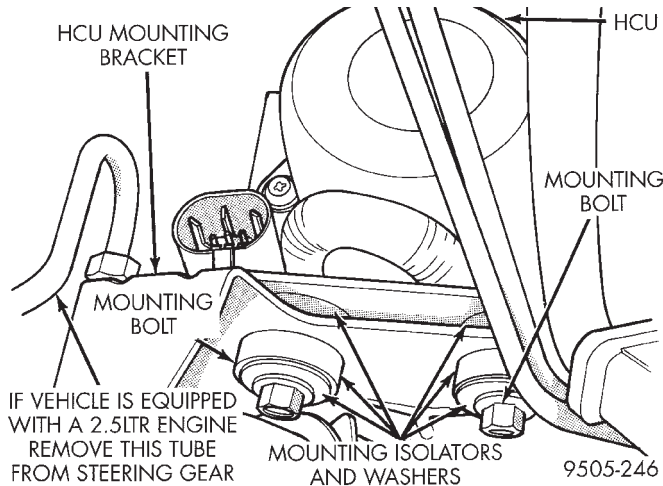
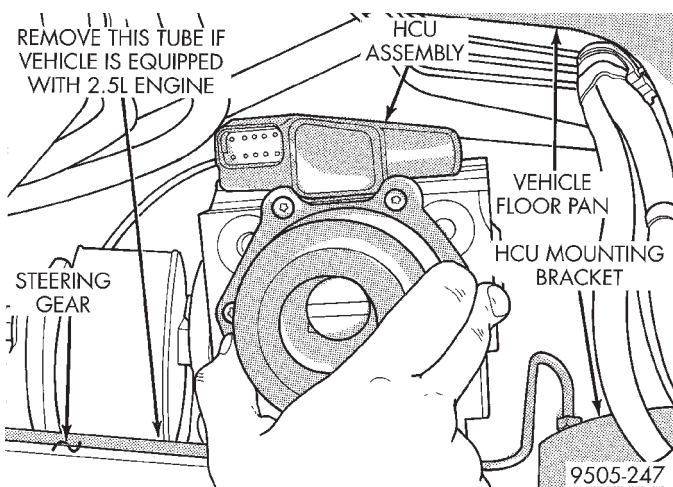

Fig. 22 Rear Attachment Of HCU To Mounting Bracket
Fig. 23 Removal Of HCU Assembly From Vehicle
(13) Remove the 2 bolts (Fig. 22) attaching the rear of the HCU to its mounting bracket. **If vehicle being service is equipped with a 2.5 ltr. engine, remove the tube as indicated in (Fig. 22) and (Fig. 23). Removing this tube will make it easier to remove the HCU assembly from the vehicle.**
(14) Remove HCU from its mounting bracket. Then remove HCU from vehicle out through the exhaust tunnel in the floor pan of the vehicle (Fig. 23).
(1) Install the HCU back in the vehicle and on its mounting bracket using the reverse order of its removal.
(2) Install mounting isolators, washers and attaching bolts, (Fig. 22) mounting the rear of the HCU to the mounting bracket. **Do not tighten bolts at this time.**